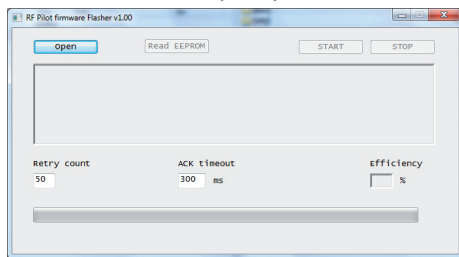
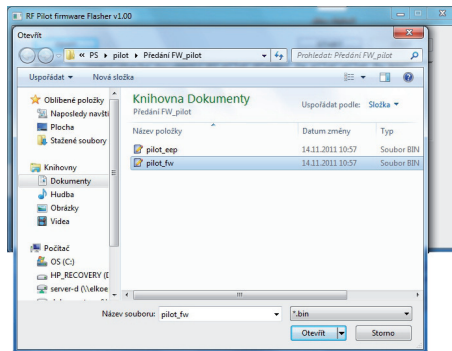

fig. 1a
fig. 1b
3. Use button „Open“ (fig. 1a) to select a file for flashing. Encoded files are saved in format BIN. The file name containing the firmware starts with text chain „PILOT\_FW“. The file name containing the user setting starts with text chain „PILOT\_EEP“ (fig. 1b). Further symbols in the file names can contain the version description and other notes.